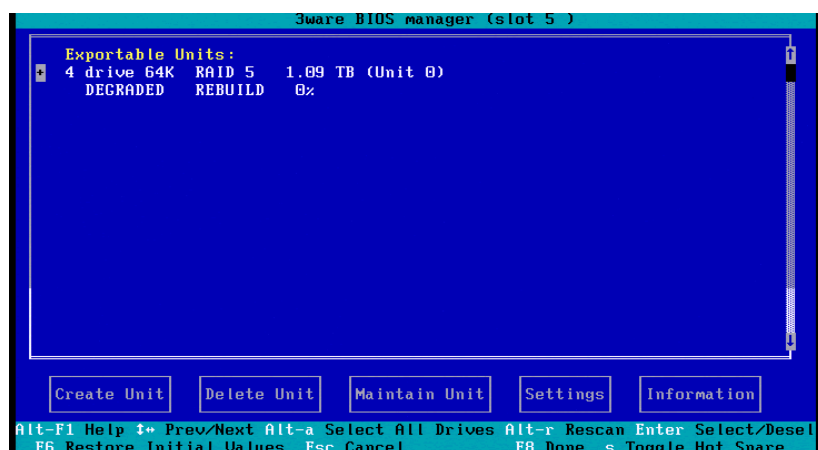

Figure 13 Exportable Units Rebuild Screen
9. Select OK and press <Enter> to display the Exportable Units rebuild screen, as shown in Figure 13.